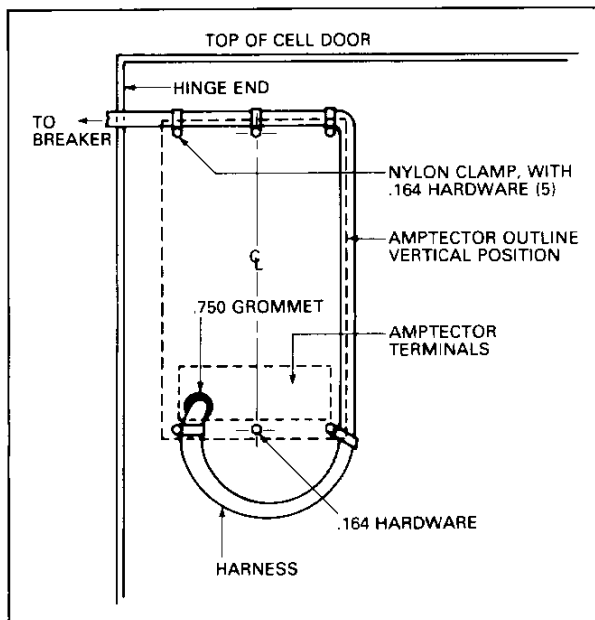

Fig. 10 Amptector Wiring Harness Mounting Details Rear View of Cell Door AK-2A-50/75/100
10. Viewing from the back of the cell door, remove the .25-20 nut and washer from the screw that is below and to the left of the grommet hole. Attach a nylon clamp on the harness and secure with the nut and washer, Fig. 10.
11. At this point estimate the amount of harness required between the top of the right front frame of the breaker and the harness clamp which will be located at the left top amptector securing screw, Fig. 10. There should be enough harness length for the breaker to be in **full connect position**.